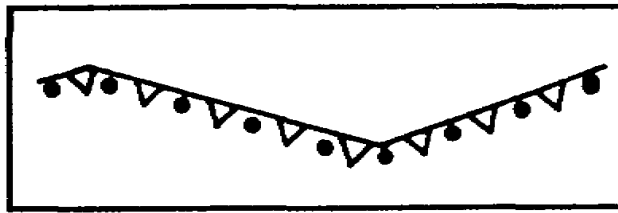

Figure 1-17. Antitank obstacle
b. Obstacles (App B, p B-48). An obstacle is any natural or man-made obstruction that canalizes, delays, restricts, or diverts movement of forces. There are four types of obstacles: points, demolitions, linear, and minefields. Figure 1-17 shows an obstacle of an antitank ditch reinforced with antitank mines.
4.	A. An obstacle Obstacles are natural or man-made obstructions that hinder the movement of forces. In this case, the obstacle is an antitank ditch reinforced with a minefield (page 1-15, para 7b and page 1-16, figure 1-17).